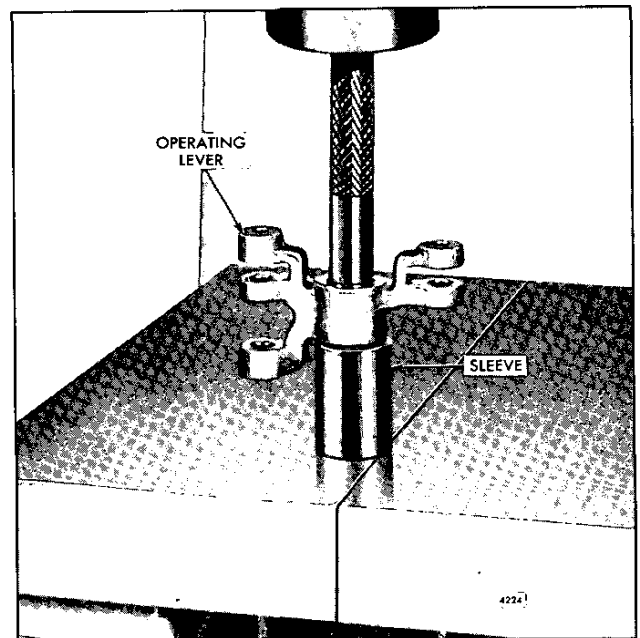

Fig. 8 – Removing Control Link Operating Lever Bearings Using Tool J 8985
- l. If removal of the needle bearing is necessary, support the control link operating lever on a sleeve and rest the sleeve on the bed of an arbor press. Place tool J 8985 on top of the bearing and under the ram of the press, then press both bearings out of the lever as shown in Fig. 8.